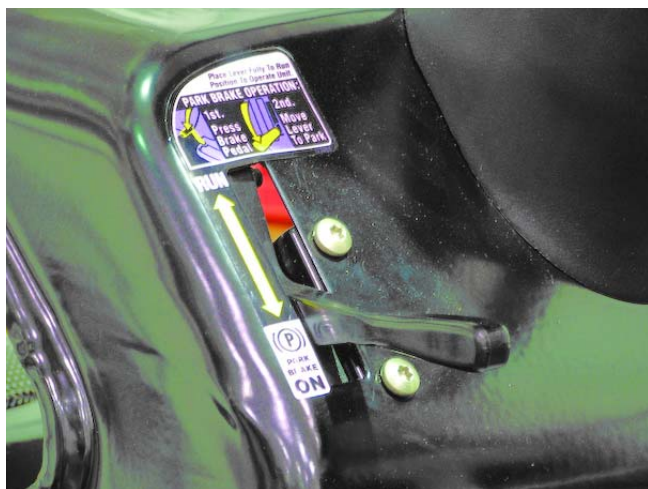

Figure 5.9
- When the brake is fully depressed, the parking brake lever can be rotated downward engaging the brake latch and holding the brake pedal in the engaged position. See Figure 5.9.